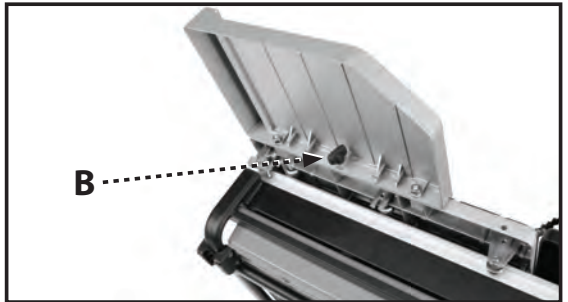

FIGURE 13
4. Secure the extension to the worktable by tightening the thumbscrew (B, Fig. 13) located on the bottom of the extension.